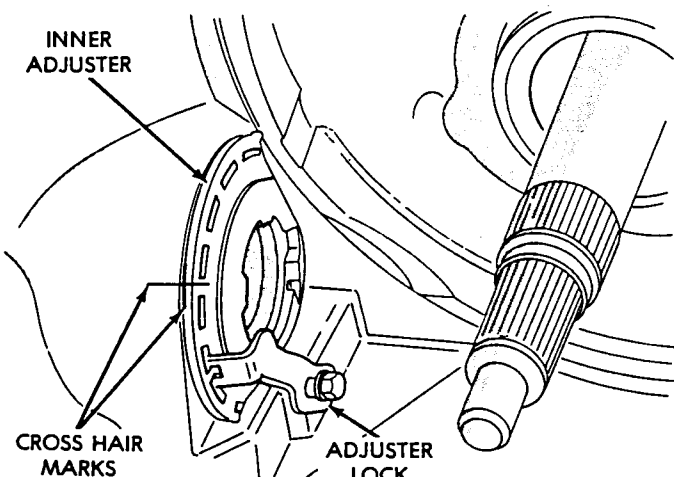

Fig. 18 Indexing Inner Adjuster
(5) Index the inner differential adjuster with a "cross hair" as shown in figure 18.